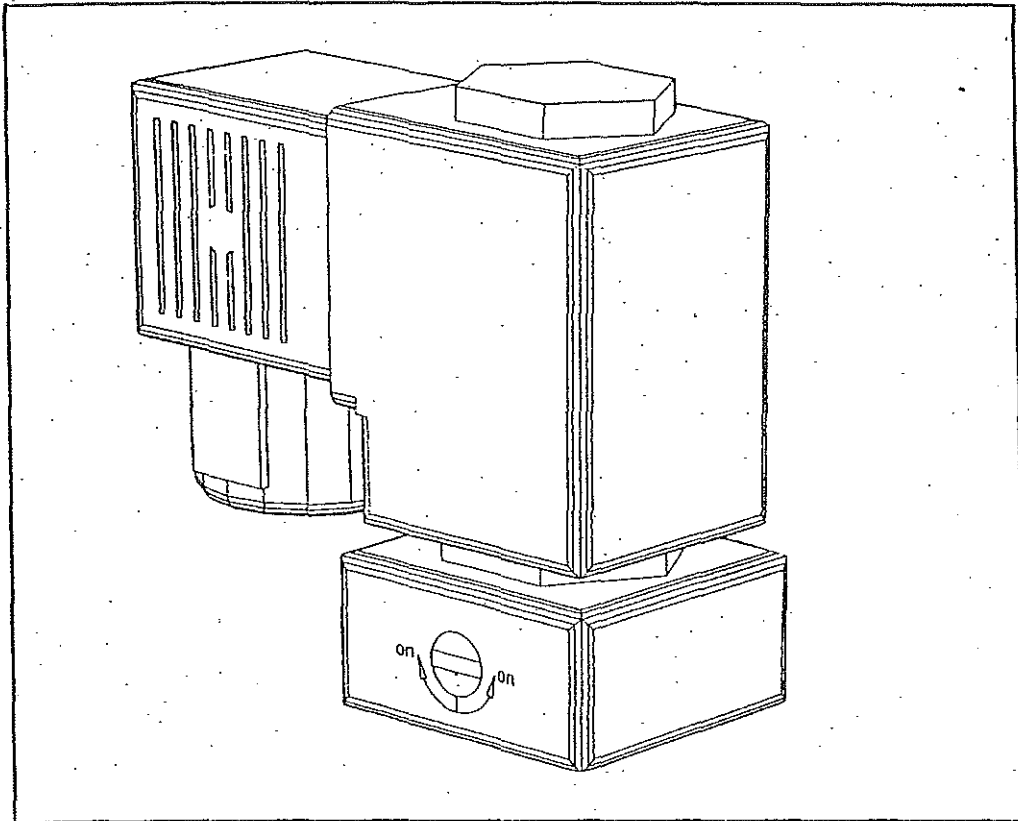

FIGURE 7-2 AUTO DRAIN SOLENOID
2. An electric solenoid valve (see Figure 7-2).